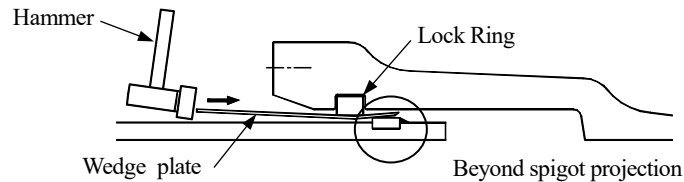

Figure-33 Inserting wedge plates for disassembly
- (4) Remove the Connecting Piece III by tightening the Lock Ring Fastener for disengaging the Lock Ring.
- (5) Pull out the spigot until the spigot projection comes into contact with the Lock Ring.
- (6) Spread the Lock Ring with the fastener.
- (7) Insert 6 to 8 wedge plates underneath the Lock Ring, ensuring the edge of the wedge plate is beyond the spigot projection. (See Figure-33.) Two flat screwdrivers may be inserted underneath the edges of the Connecting Piece II and III to facilitate the plate insertion.